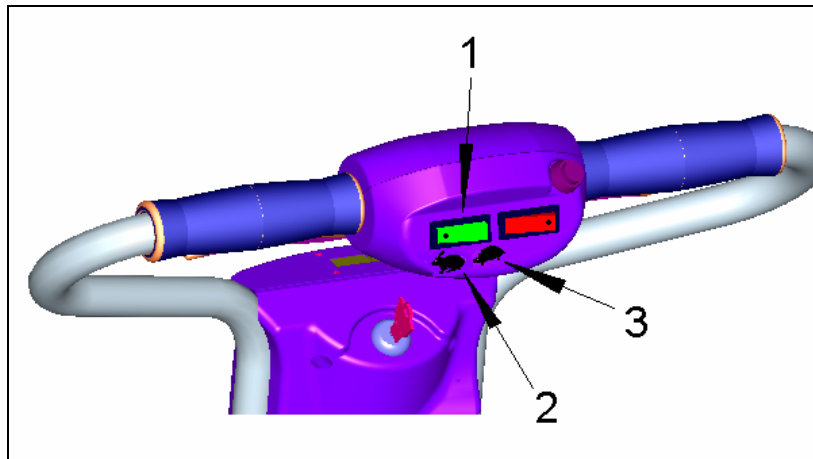

Figure 11
One way to control the speed of the Caddy is by squeezing the throttle handles: The more you squeeze, the faster you will drive. Another way to limit the speed is by means of the speed selector switch (1) see **figure 11**.
- The Caddy has two positions to limit the maximum speed: The **high speed** setting indicated by the **hare** (2) on the speed selector switch (1) sets the Caddy to a maximum speed of **7,5 km/h**. If the switch is in this position the green light should light up see **figure 11**.
- The **slow speed** setting indicated by the **turtle** (3) on the speed selector switch, sets the Caddy to a maximum speed of **4,5 km/h**. In this position the green light on the switch is OFF. See **figure11**.